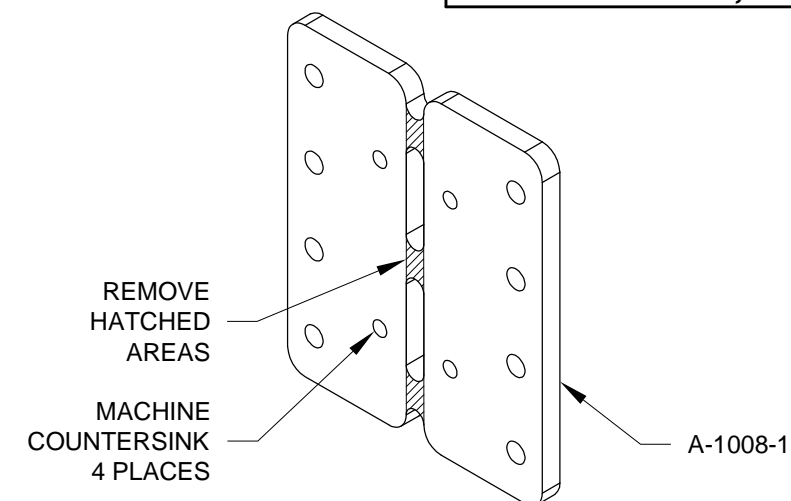

FIGURE 3: SEPARATING THE DOUBLERS
Step 5: Machine countersink the A-1008-1 Doubler for the head of AN426AD3 rivets as shown in Figure 3.
Removed the hatched areas on the doubler as shown in Figure 3 to make 2 parts.